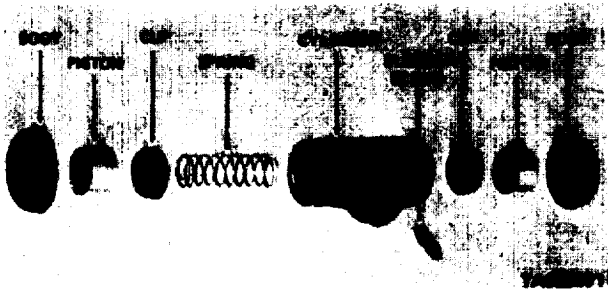

Figure 22-11. Wheel Cylinder (Disassembled View).
- a. Disassembly* (see figure 22-11).